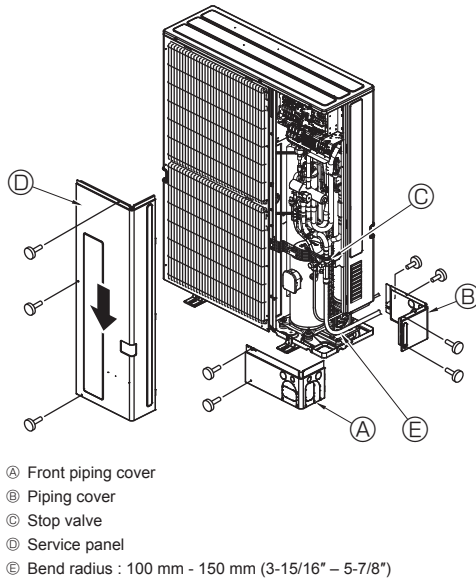

Fig. 5-7
5.6. Refrigerant piping (Fig. 5-7)